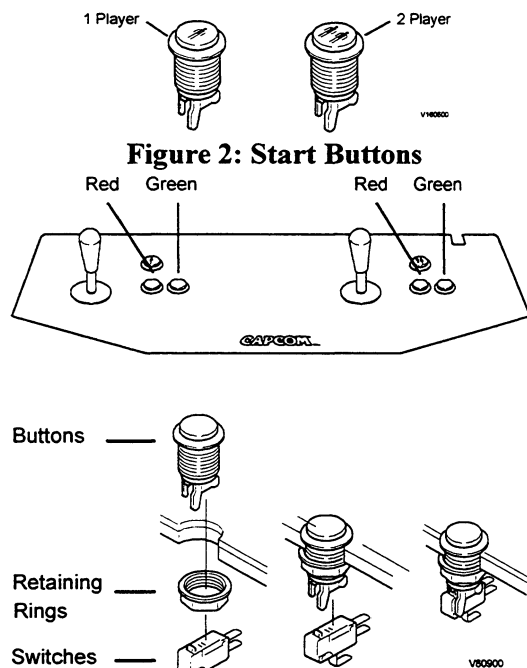

Figure 3: Control Panel Buttons and Switches
16. Install all buttons and retaining rings on the control panel as shown in Figure 3. Install two red buttons to the immediate right of each joystick, install two green buttons to the right of the red ones, and install two blue buttons to the right of the green ones.
17. Install the switches on the buttons as shown in figure 3. Orient the switches so that when a button is pressed, the plastic contact on the switch is depressed.